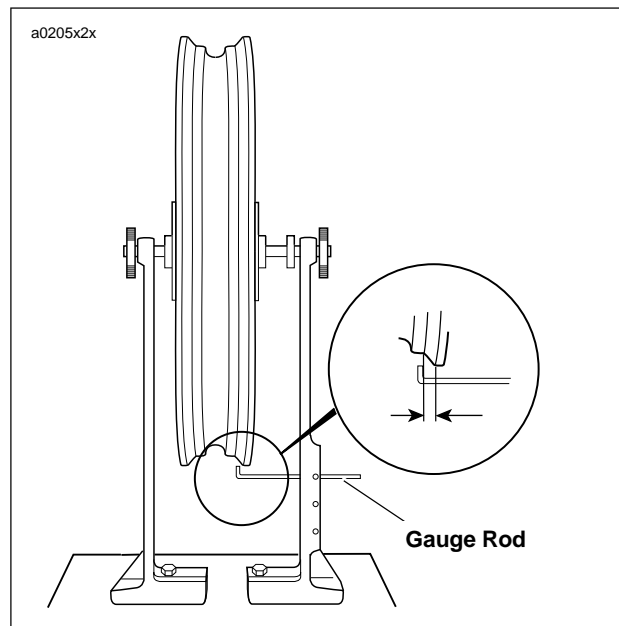

Figure 2-18. Checking Cast Rim Lateral Runout using Wheel Truing and Balancing Stand (Part No. HD-99500-80)
1. See Figure 2-18. Install truing arbor in wheel hub and place wheel in WHEEL TRUING AND BALANCING STAND (Part No. HD-99500-80).